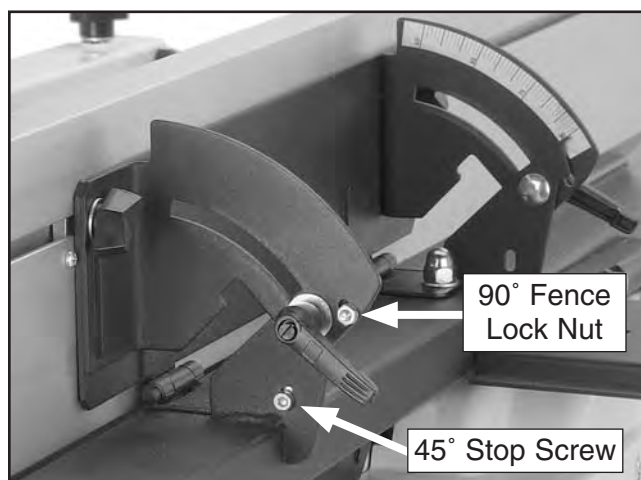
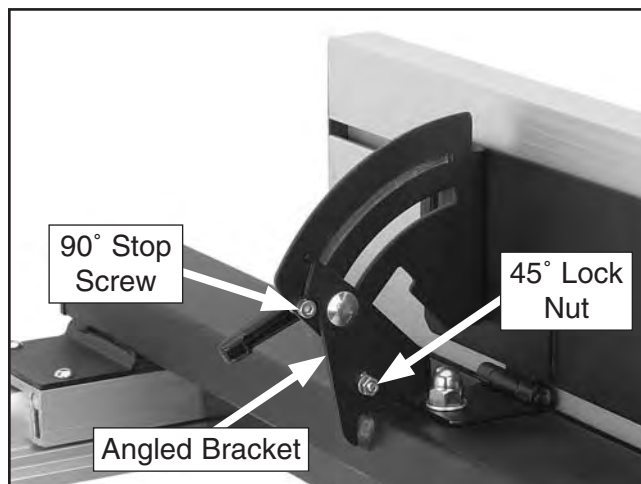

Figure 69. 90° lock nut and 45° stop screw.
Figure 70. 90° stop screw and 45° lock nut.
1. Loosen the 90° lock nut (**Figure 69**) and stop screw (**Figure 70**), and loosen the fence tilt locks.
1. Loosen the 45° lock nut (**Figure 70**) and stop screw (**Figure 69**), then loosen the fence tilt locks.